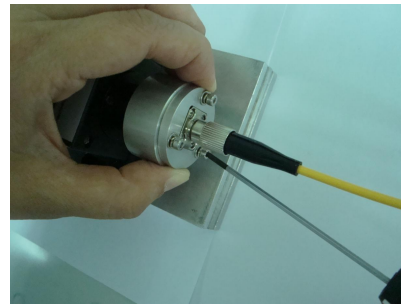
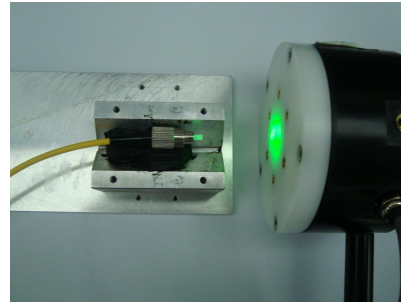

Figure 4: Test laser output power
Figure 5: Adjustment complete
5. Turn the three adjusting screws on the coupler clockwise or counter clockwise with a screw driver (the three screws should be adjusted together), until laser output from the aperture. At the meantime slide the front end cap of coupler with fingers gently to achieve the maximum output power (Figure 4). The output power maximum when the center of fiber is at the focal point of laser beam. Note: the center of coupler maybe not the most accurate coupling center (Figure 5).